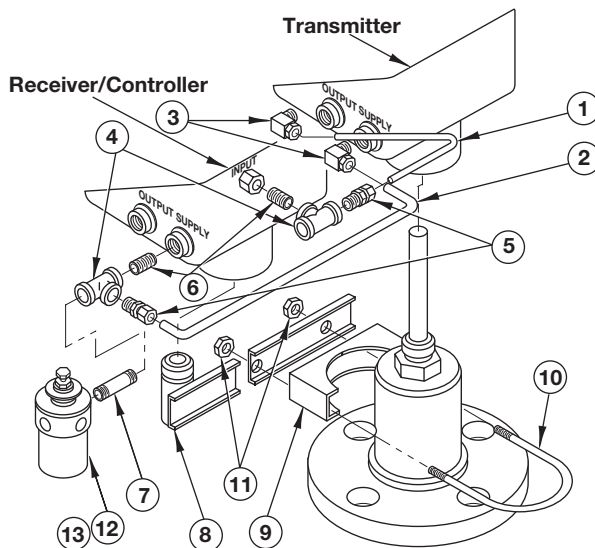

Figure 42
3.3.9.1 Transmitter Mounted Receiver Controller Replacement Assemblies (See Figure 42)